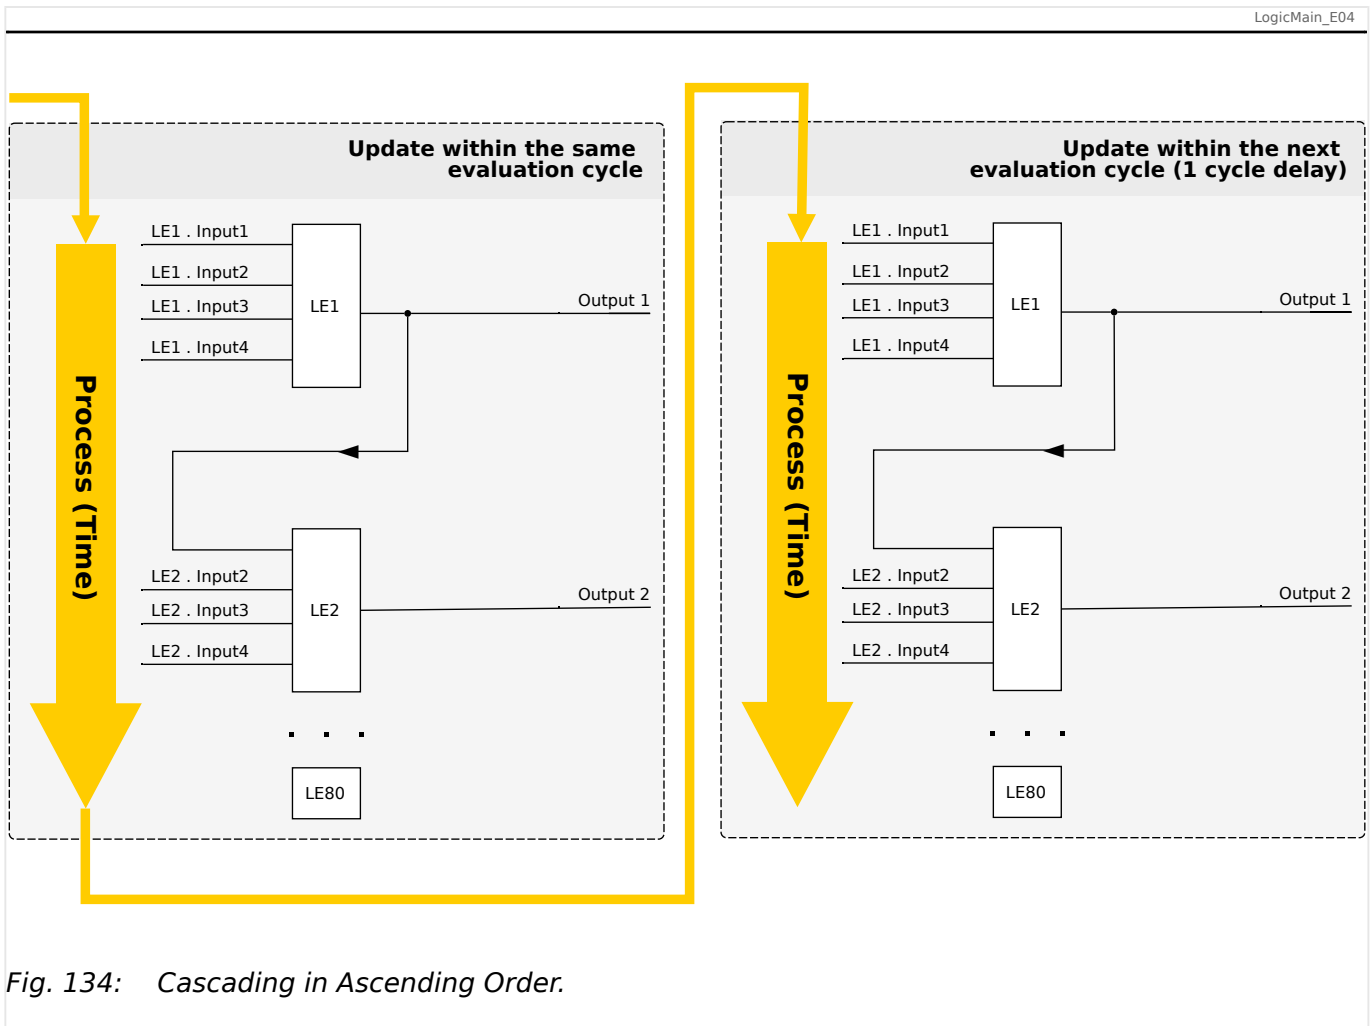
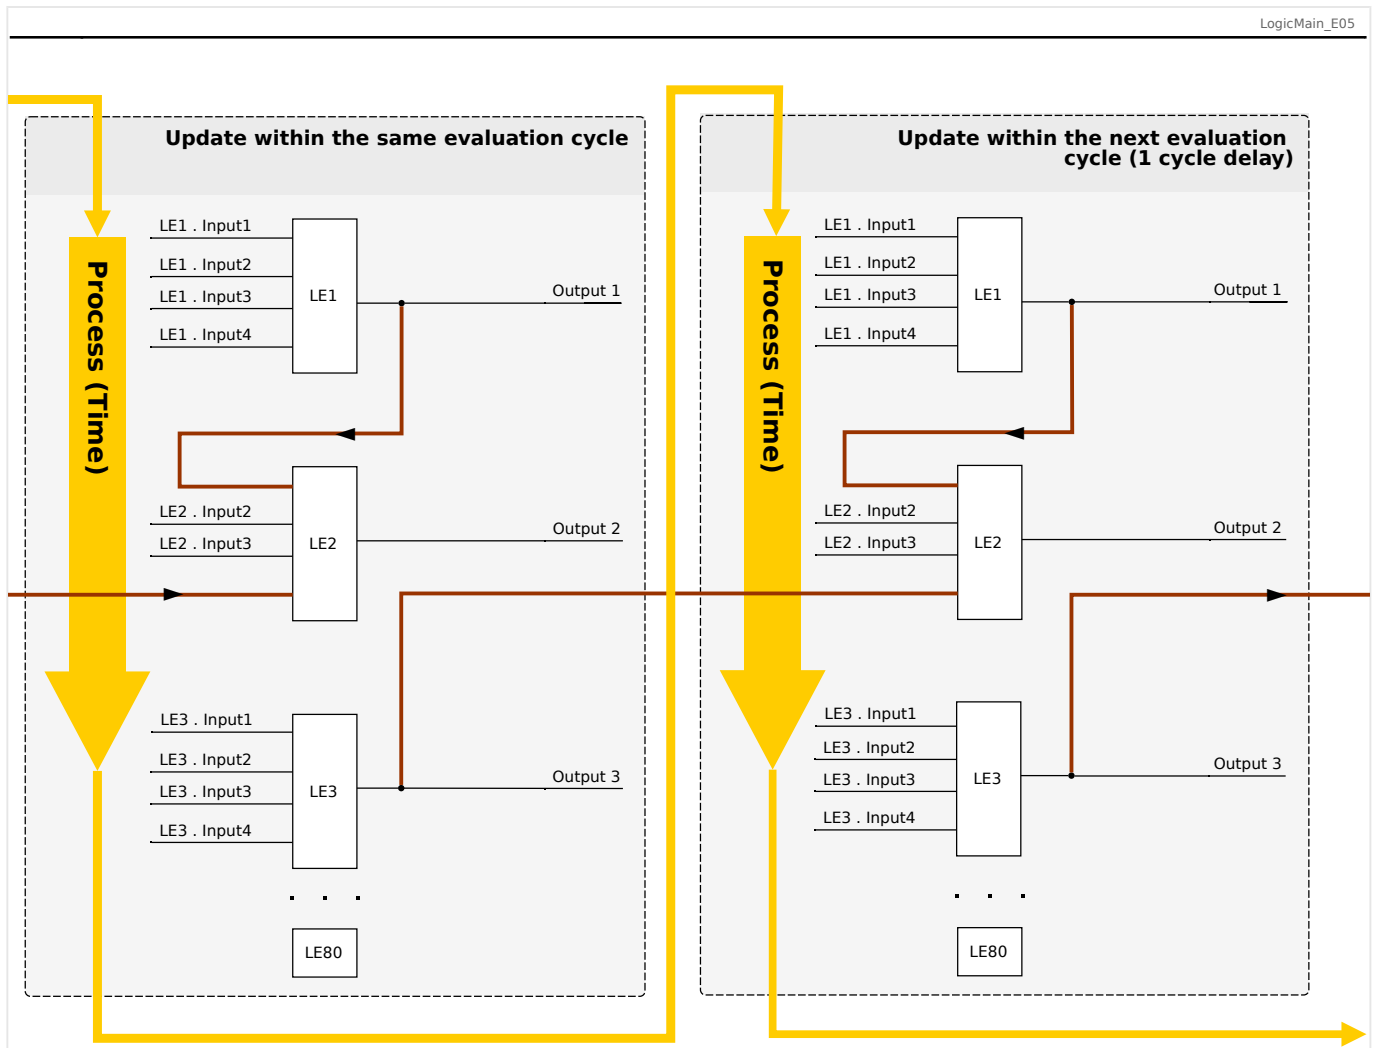

Fig. 134: Cascading in Ascending Order.
Fig. 135: Cascading in Descending Order.
- **Ascending** sequence means that some output is fed into the input of a logic equation with **higher** number. For instance, diagram  Fig. 134 below shows an example where the result of Logic Equation LE1 is used as an input of Logic Equation LE2.
- **Descending** sequence means that some output is fed into the input of a logic equation with **lower** number. For instance, diagram  Fig. 135 shows an example where the result of Logic Equation LE3 is used as an input of Logic Equation LE2.
Both ascending and descending sequences may be used and combined one with the other, with no immediate difference. However, due to the evaluation of all equations in ascending order the actual run-time values that are fed in at the input of an equation will have a different “age”, as is shown in  Fig. 134 and  Fig. 135 below.
In the example shown in Fig. 135 above, “Logic Equation 2” uses the output states of two other equations, “Logic Equation 1” and “Logic Equation 3”. The result of “Logic Equation 1” is used in ascending order and has therefore been evaluated within the same process cycle. The result of “Logic Equation 3” is used in descending order and has therefore been evaluated in the previous process cycle.